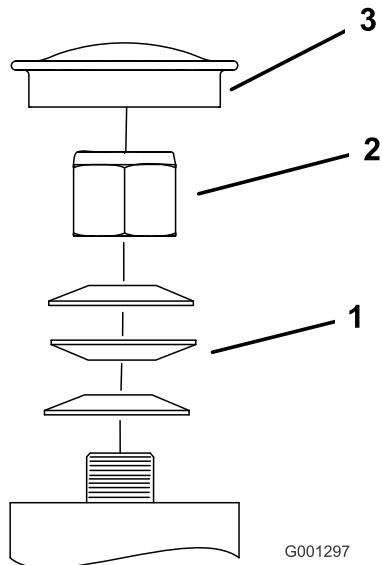
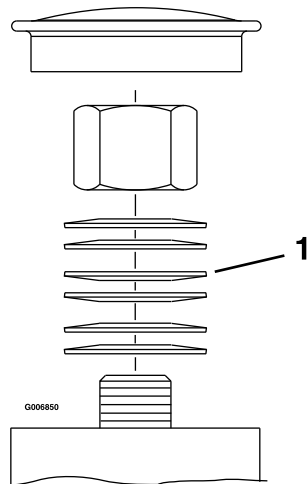

Figure 44
Figure 45
3. Remove the dust cap from the caster and tighten the locknut (Figure 44 and Figure 45).
- Tighten the locknut until the spring washers are flat and then back off 1/4 turn to properly set the pre-load on the bearings (Figure 44 and Figure 45).
Important: Make sure that the spring washers are installed correctly as shown in Figure 44 and Figure 45.